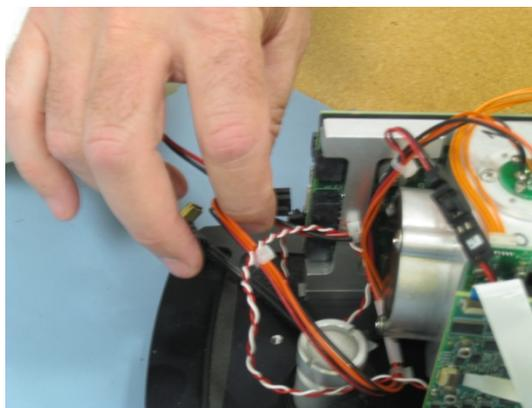

Figure 21. Disconnecting the laser/source power harness
- 5 Disconnect the laser/source harness from the power board. The laser/source harness is identifiable by its 6-pin connector and orange, black and red wire combination (see Figure 21).